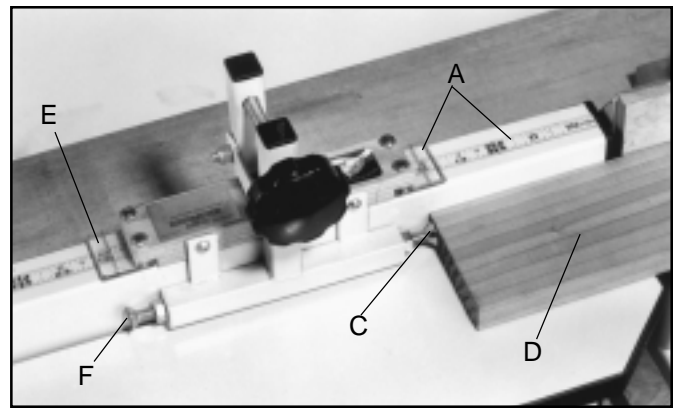

Fig. 12
The 78-989 Dual Pointer Cut-Off Stop, shown in Fig. 12, gives precise settings to 1/64th of an inch. An adjustable stop screw (C) positively limits the workpiece (D), as shown, and should be adjusted to the scale and cursor (A). The dual pointer cut-off stop can be used on the right hand side of the saw blade by using the cursor (E) and stop screw (F).